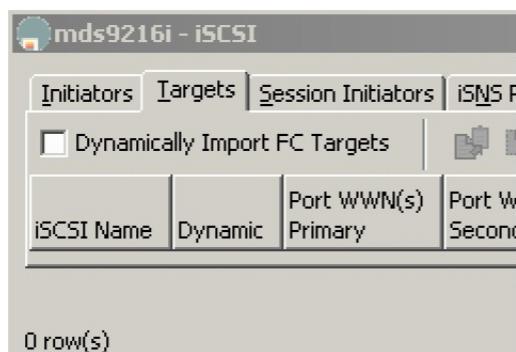

Figure 32 The Targets tab
2. Click the **Targets** tab (Figure 32).